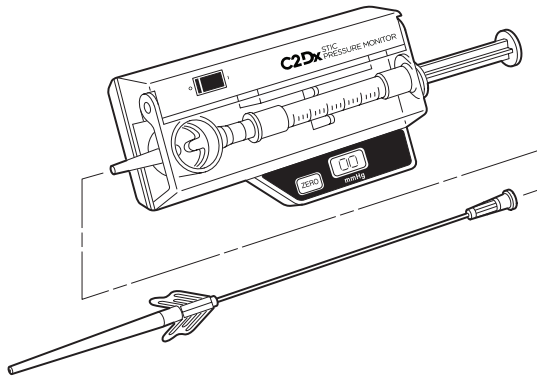

Figure 4
3. Attach the slit catheter to the tapered chamber stem. Make sure the fit is very snug. See Figure 4.